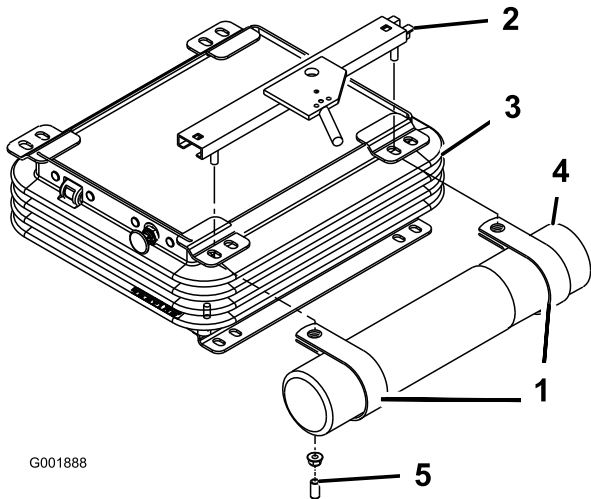

Figure 7
- Remove the 2 nuts and vinyl caps (if previously installed) securing the upper seat bracket to the left side of the seat suspension (Figure 7).
- Loosely mount the R-clamps to the seat bracket studs with the 2 nuts previously removed. (Figure 7). The R-clamps are to be positioned under the seat suspension tabs.